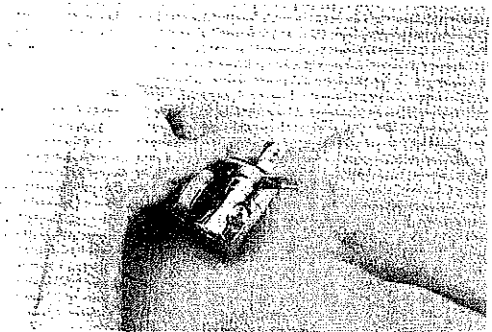

Fig. 8A
1. Before disassembling the first stage, remove the low pressure second stage hoses from the swivel(39) with a 9/16" open end wrench, the high pressure hose(s) with a 5/8" open end wrench, and the low pressure inflator hose with either a 9/16" or 1/2" open end wrench. Remove all remaining port plugs with a 5/32" hex key.
3. Place the first stage on the repair bench, situated with the DIN connector facing farthest away, vertically. Holding the connector firmly in place, use a genuine Oceanic Body Spanner to loosen the piston cap(36) from the main body(28) in a counter clockwise direction by exerting opposing downward pressures. DO NOT loosen beyond 1/2 turn. (See fig. 8A.)